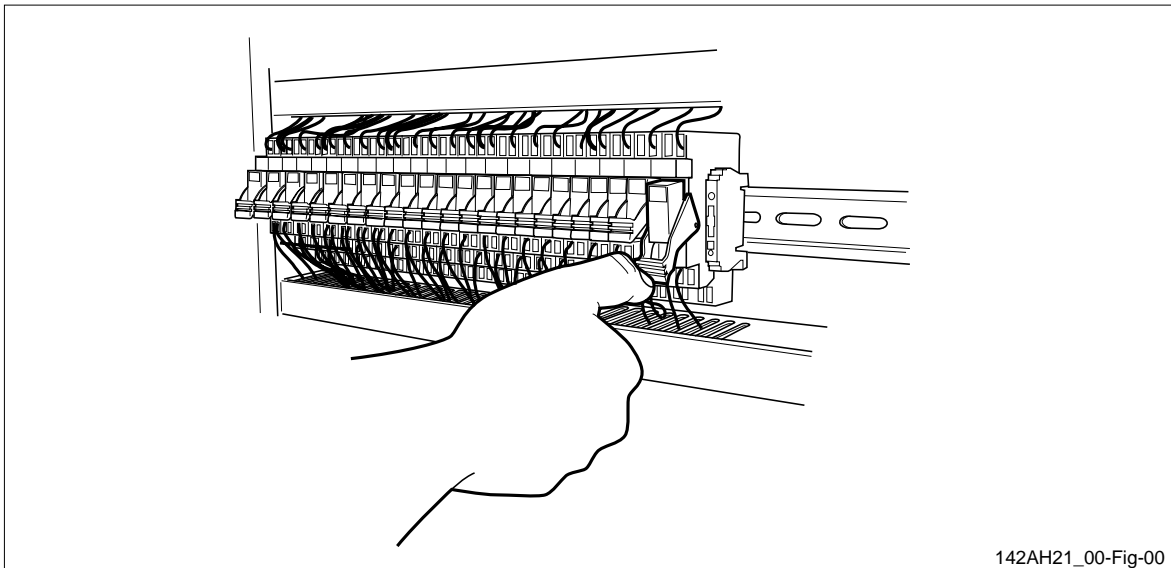

Figure 11 Unlocking a 2-pole relay.
2. Push down the stirrup to unlock the locking mechanism for the relay to be replaced, as shown in figure 11.